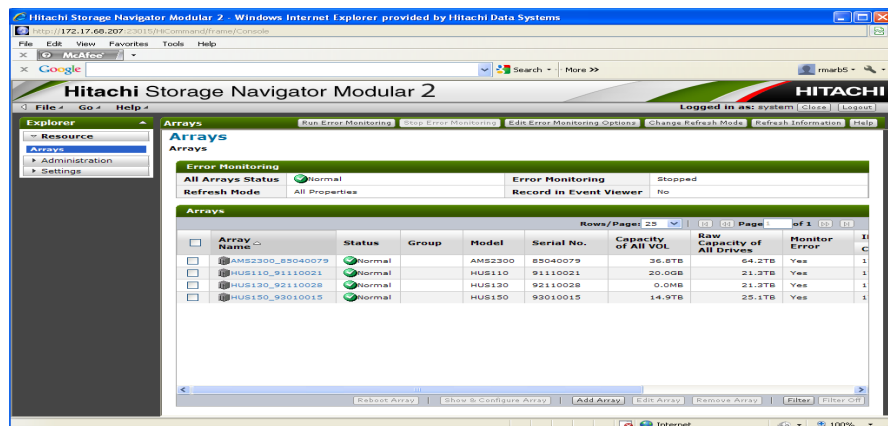

Figure 4-2: Example of Storage Systems in the Arrays dialog box
4. Click **Login**. Navigator 2 starts and the Arrays dialog box appears, with a list of Hitachi storage systems (see Figure 4-2 on page 4-5).